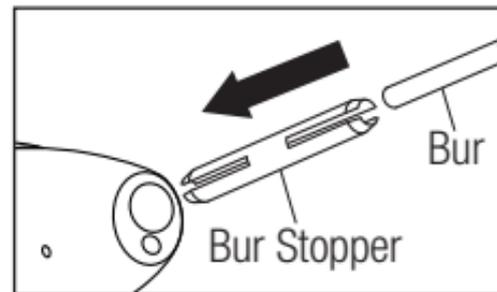
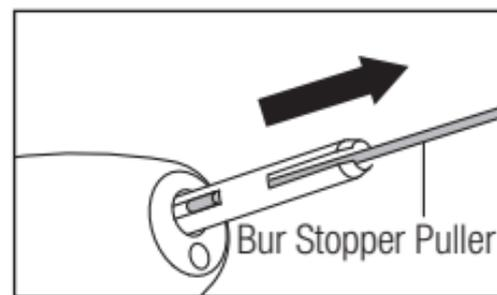

Fig. 4
Fig. 5
- 2 Insert the supplied Bur Stopper into the chuck. (Fig. 4)
- 2 Insert the supplied Bur Stopper Puller into the chuck. Pull out the Bur Stopper by hooking at the slit of Bur Stopper. (Fig. 4, Fig. 5)